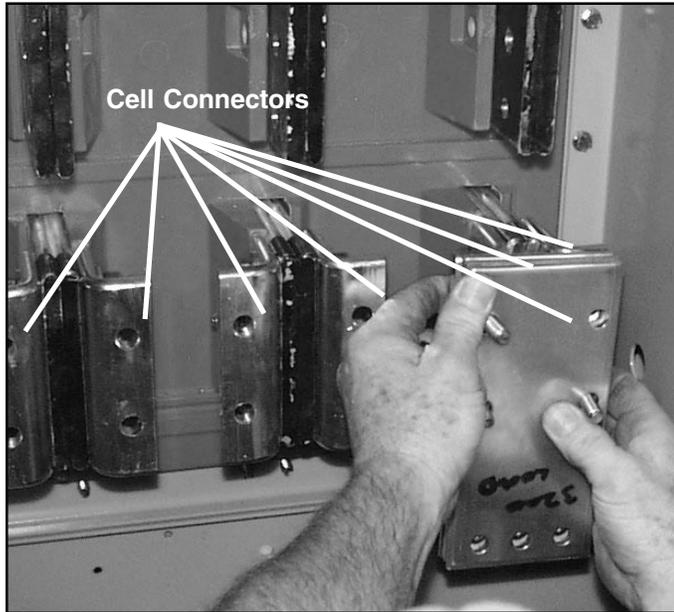
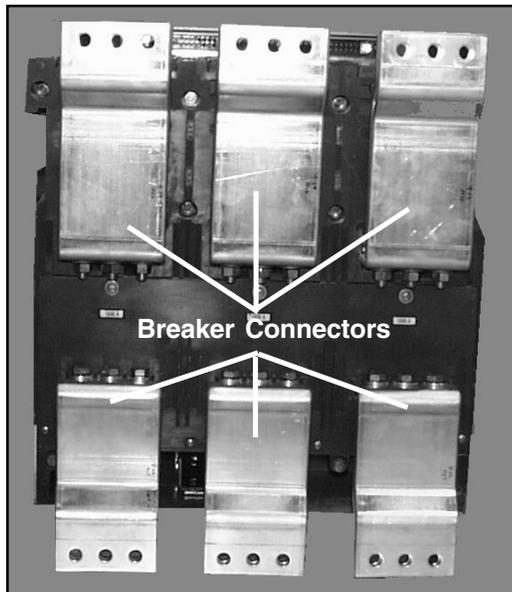

Figure 3-5.11
Figure 3-5.12
Step 12. With the breaker out of the cell, access is gained to the cell connectors (Figure 3-5.11) and breaker connectors (Figure 3-5.12).